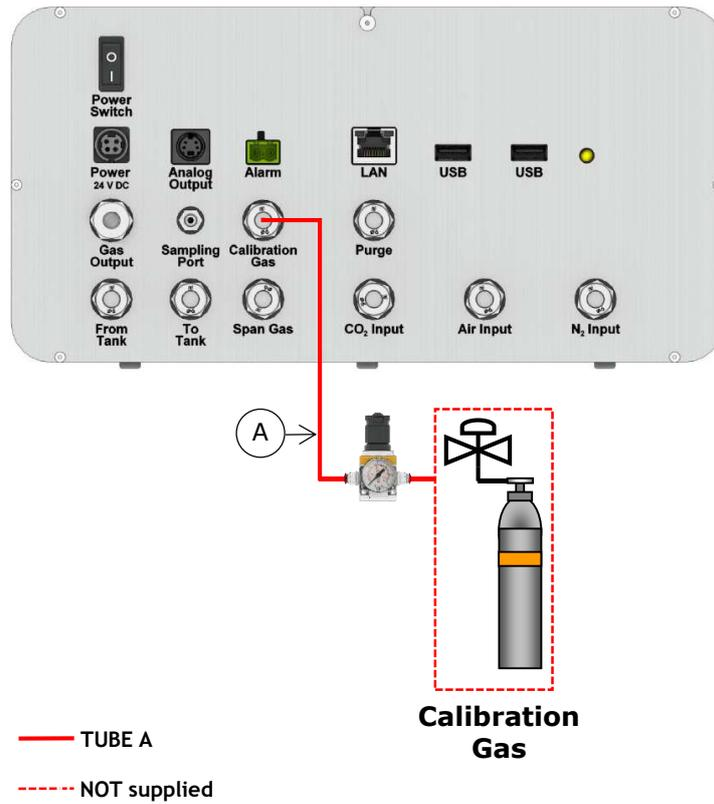

Figure 55 Gas calibration tank connection
1. The Gas Calibration tank is connected to the Tri-Gas-Mixer as shown in Figure 55